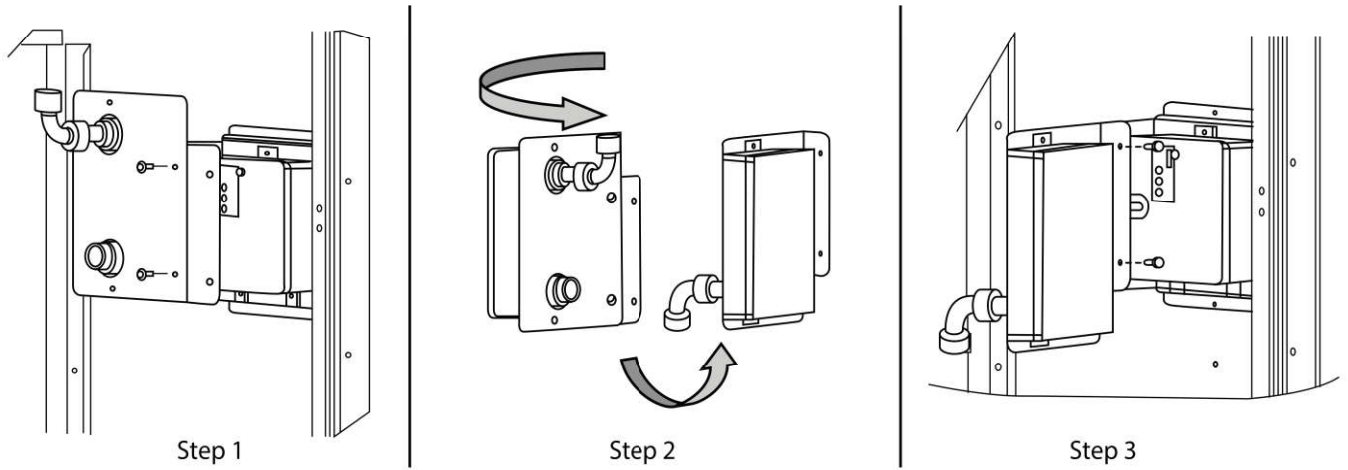

Fig. 95 — Completing Installation of Return Air Smoke Sensor
1. Unscrew the two screws holding the Return Air Smoke Detector assembly. See Fig. 95, Step 1. Save the screws.
3. Turn the assembly 90 and then rotate end to end. Make sure that the elbow fitting is pointing down. See Fig. 95, Step 2.
4. Screw the sensor and detector plate into its operating position using screws from Step 1. Make sure the sampling tube connection is on the bottom and the exhaust tube is on the top. See Fig. 95, Step 3 and Fig. 96.